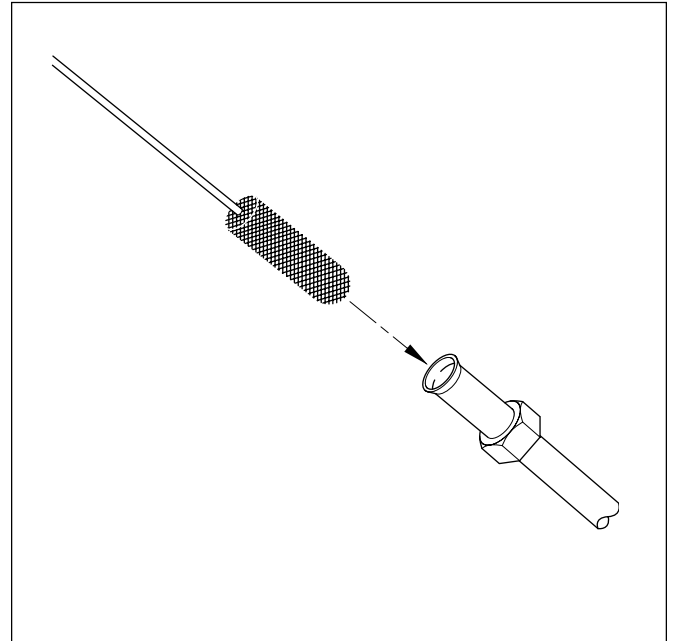

Figure 17
1. Use a properly-sized stiff stainless steel wire brush to loosen existing contaminants from the tube inside diameter, extending as far as possible into any bends in the tubing (see Figure 17).